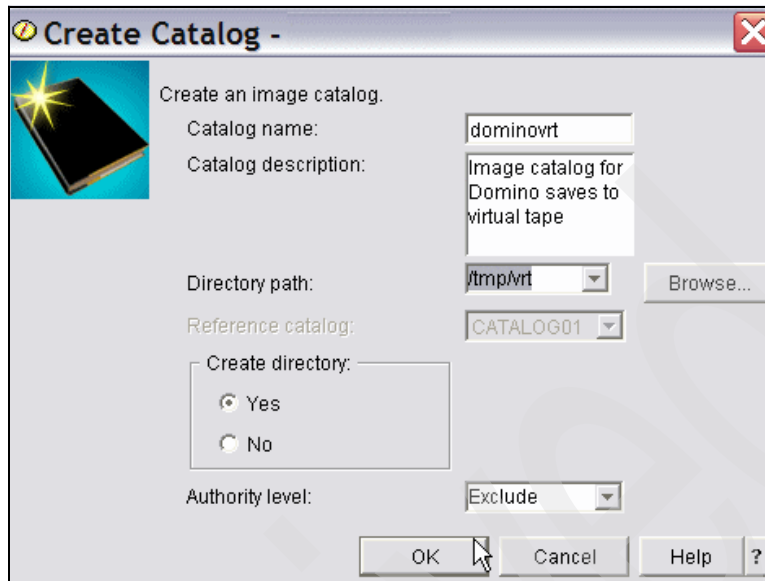

Figure 5-2 Create image catalog
3. In the window that appears, as shown in Figure 5-2 on page 191, input the following values, and click **OK**: